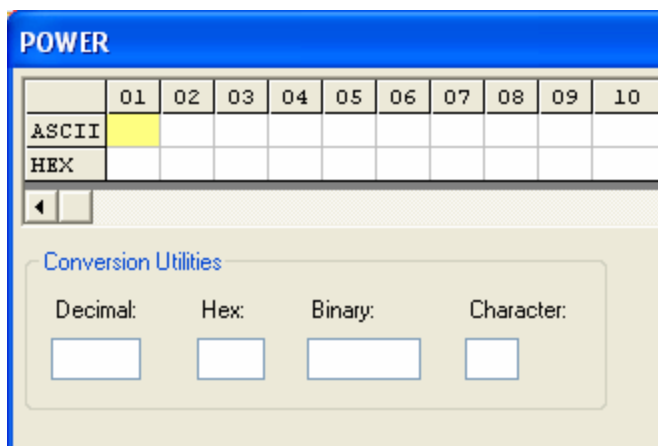

Figure 25
6. Select the command the left side of the Palette Editor (i.e. Power, Play, Stop etc.). An RS232Command String Editor window will now appear as shown in **Figure 25**.